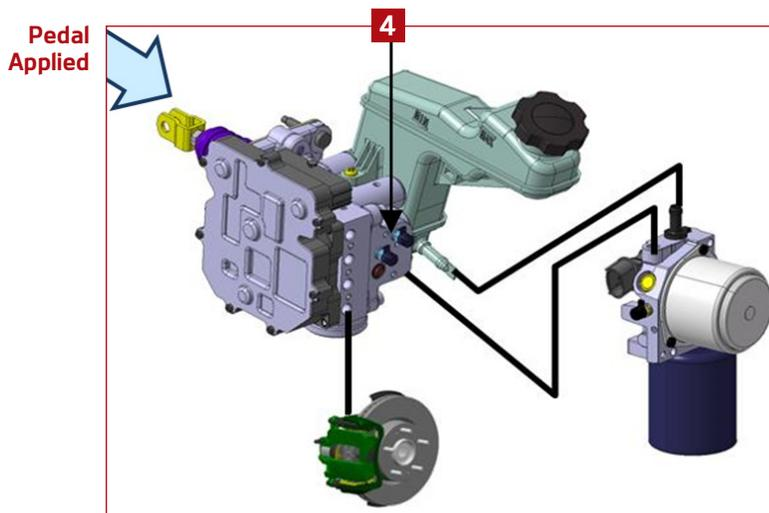

Fig. 8.
- Pressure Bleed + brake pedal at iBAU **4** (fig. 8)